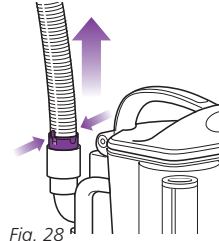

Fig. 28
- Detach the stretch hose from the back of the detachable canister by squeezing the tabs together and pulling up. (Fig. 28) Straighten out the hose and look inside for blockages.